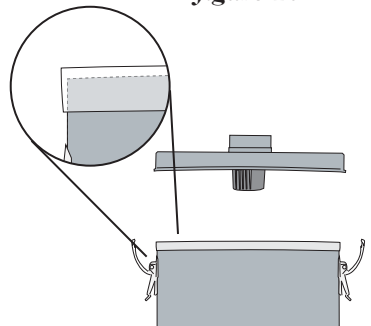

figure 11
6. Replace filter. Ensure that the filter seal is well inserted on the unit rim (**figure 11**).